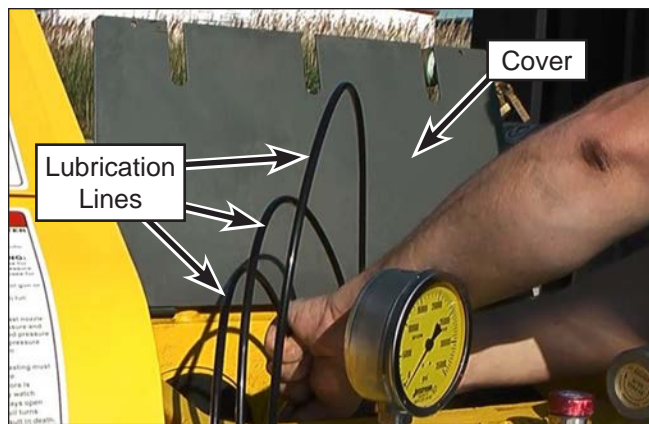

Figure 63: Disconnecting the Lubrication Lines.
4. Open the rod box cover (Figure 63) and disconnect the lubrication lines from the stuffing box fittings.